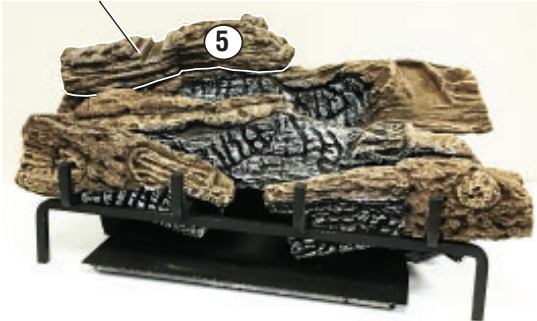

Figure 60 - Installing Log # 5
5. Place the left top back log (#5) on top of the rear log. Match the rectangular projection on top of the left side of the rear log with the rectangular hole on the bottom of the left top back log. Match the metal pin on the top of the rear log with the round hole in the bottom of the left top back log. See **Figure 60**.